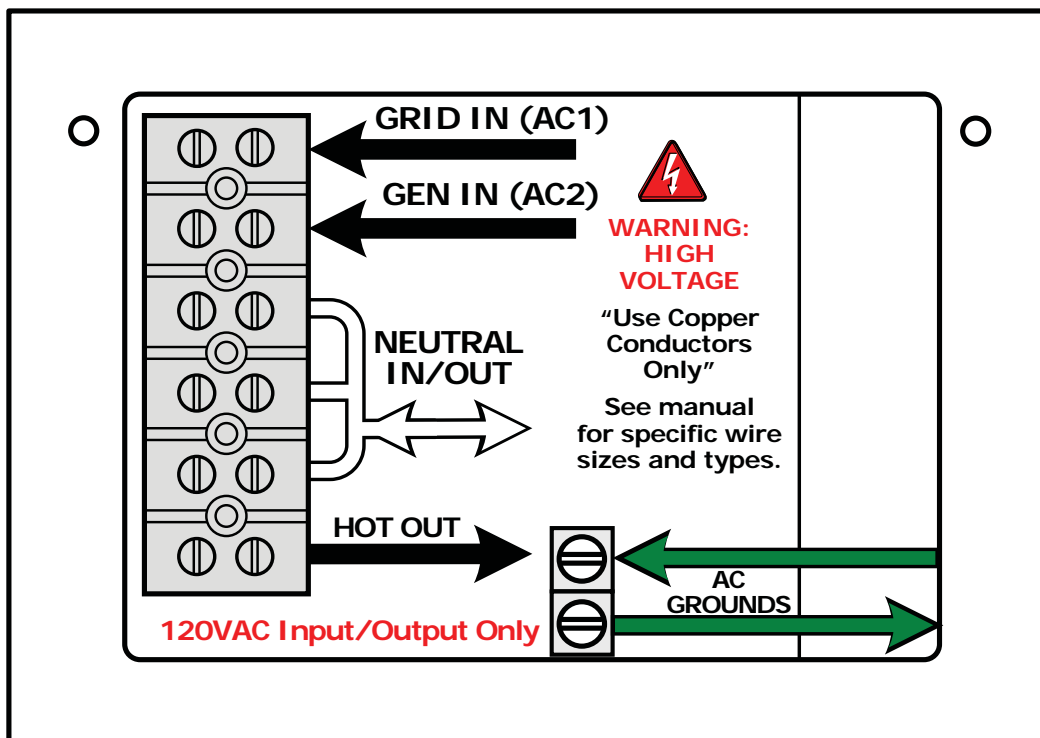

Figure 2-8, AC Terminal Block
The inverter has a six-pole AC terminal block and two AC ground terminals to connect the inverter's AC input and output wiring. The MSH-RE Series provides a terminal block (see Figure 2-8) that allows the AC input and output wiring to be permanently wired. This terminal block allows either a service/distribution panel (main panel) or a generator to be wired to the inverter's input, and then to a dedicated panel (sub-panel) between the inverter's output wiring and the AC loads. To access and view the AC terminal block and ground terminal, remove the two Phillips screws holding the AC wiring access cover plate (see Item 15, Figure 1-3).
Remove the two Phillips screws on the AC wiring access cover (Item 15, Figure 1-3) to access the internal AC terminal block (see Figure 2-8).
**AC Side** – Where the AC output from the inverter is connected to an AC load center, there should be an equipment grounding conductor connected between the inverter case and the grounding point in the AC load center. The AC equipment grounding conductor (EGC-AC) is sized per Table 2-4 and is connected to the inverter's AC equipment grounding terminal shown in Figure 2-8.